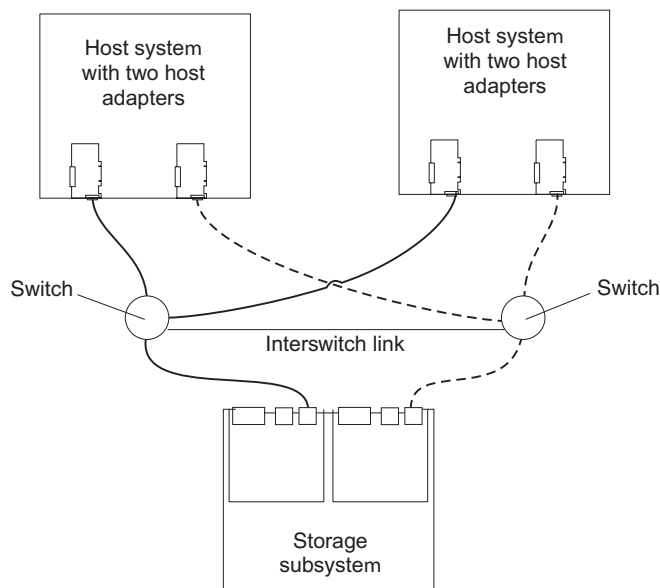

Figure 56. Example of a single SAN fabric configuration
- Single SAN fabric configuration, as shown in Figure 56 on page 86
In Figure 56, the Fibre Channel switches are connected together via the inter-switch link (ISL) to form a single SAN fabric.